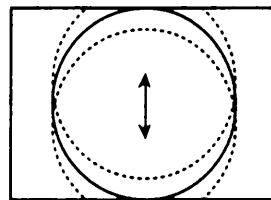

Fig 4.
- d: Adjust the horizontal location to obtain picture centring (fig 4).